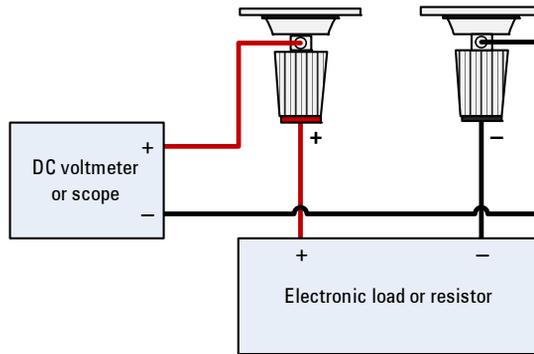

Figure 1-1 Test setup (A)
- 1 Power off the power supply, and connect a multimeter between the (+) and (-) terminals of the output to be tested. Remove the electronic load or resistor block as shown in **Figure 1-1**, to operate it as an open circuit.
- 1** Power off the power supply, and connect a multimeter between the (+) and (-) terminals of the output as shown in **Figure 1-1**.
- 1** Power off the power supply, and connect a multimeter between the (+) and (-) terminals of the output to be tested as shown in **Figure 1-1**.